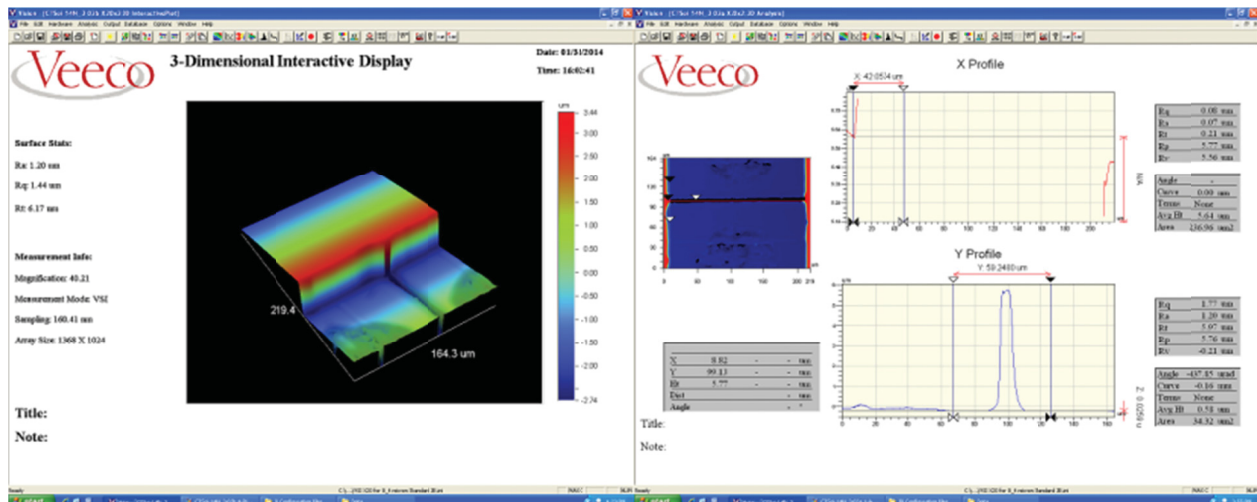

Figure 2 : Veeco Optical profiler measurement of CNT layer thickness for sample CTSOI-14N Bridge#3
- Veeco optical profiler appears unsuitable for this kind of measurements due to the high difference of reflectivity between the CNT layer and the surrounding layers (TiN electrodes and Si Handle). The low reflectivity of the CNT layer makes the bridge appear as a hole in the whole structure (Figure 2).